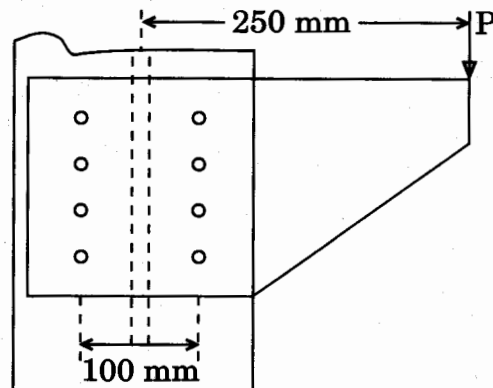

Figure 8
- (b) A bracket plate is connected to a flange of ISMB 500 as shown in Figure 8. Find the safe load  $P$  carried by the joint. M 16 bolts of grade 4.6 are provided at a pitch of 50 mm and end distance 30 mm. 20